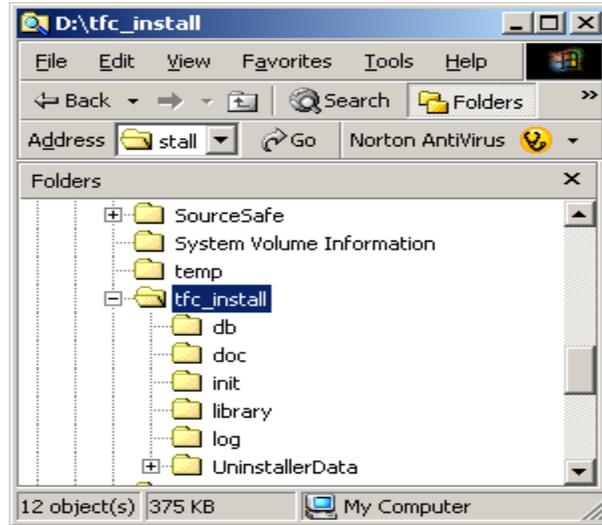

Fig. 1.1. TFCompanion installation directory structure
2. After installation is completed, you will need an evaluation key to start the application. Please send email to evaluation@semiconsoft.com. You will receive evaluation key – file “evaluation” that you will need to place in the `/init` directory of TFCompanion installation on your computer (**Fig. 1.1**).